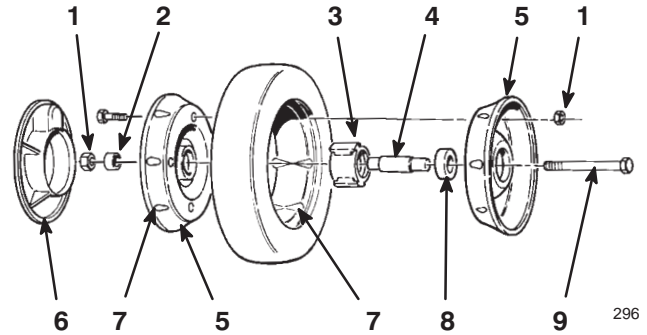

Figure 29
3. Remove the bolt, the wheel spacer, and the locknut mounting the wheel to the pivot arm (Fig. 29).
4. Separate the wheel halves from the tire by removing four bolts and four locknuts (Fig. 29).
Note: If you remove the bearings from the bearing/hub assembly, remove them by pressing on the bearing spacer (Fig. 29).
1. Position the tire onto one wheel half, aligning the lugs on each (Fig. 29).
2. Place the bearing/hub assembly into the center hole of the wheel half. Ensure that the legs of the hub are positioned over the flange of the hole (Fig. 29).
3. Place the other wheel half onto the bearing/hub assembly, aligning the wheel and the tire lugs and the mounting holes (Fig. 29).
4. Using two 1/4–20 x 1.50 in. (6 x 38 mm) fully threaded bolts and non-locking nuts, loosely secure the wheel halves together. Mount the bolts in the opposing holes (Fig. 29).
5. Check the alignment of all parts and tighten the bolts, alternating from side to side for a uniform fit, until the wheel halves are drawn together (Fig. 29).
6. Install the two bolts and two locknuts previously removed in the remaining holes in the wheel halves and tighten. Remove the two long bolts and replace them with two bolts and two locknuts (Fig. 29).
7. Install the wheel to the pivot arm with the bolts, a spacer, and a locknut. Ensure that the spacer is positioned between the wheel hub and the pivot arm (Fig. 29).